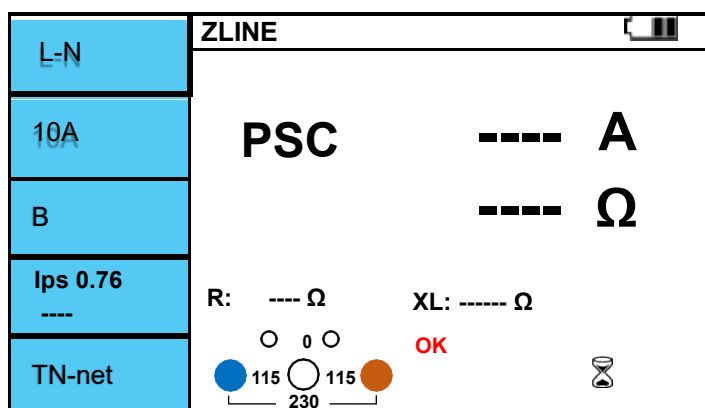

Figure 6.5.8 Z-line / L-N screen.
- IV. If there is no problem with the test lead connection, the terminal status is displayed as shown in Fig. 6.5.8 "OK" is displayed in the right window.